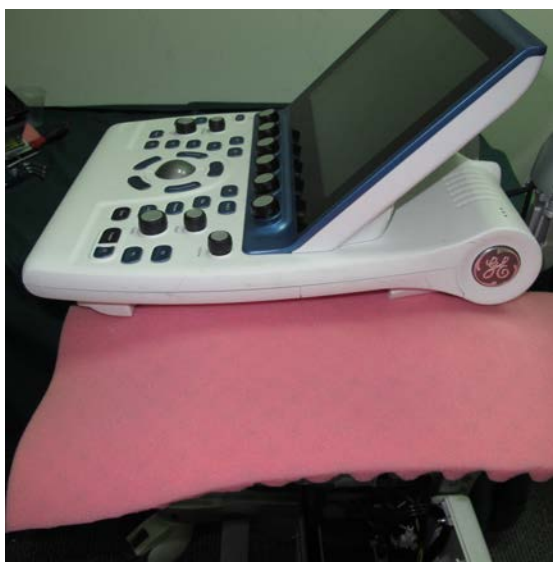

Figure 8-51 Protective Sponge shown Beneath OPIO
- 5) Before proceeding, place some protective sponge beneath the Keyboard Assembly unit to protect it from being damaged during the removal procedure - see Figure 8-51 below.